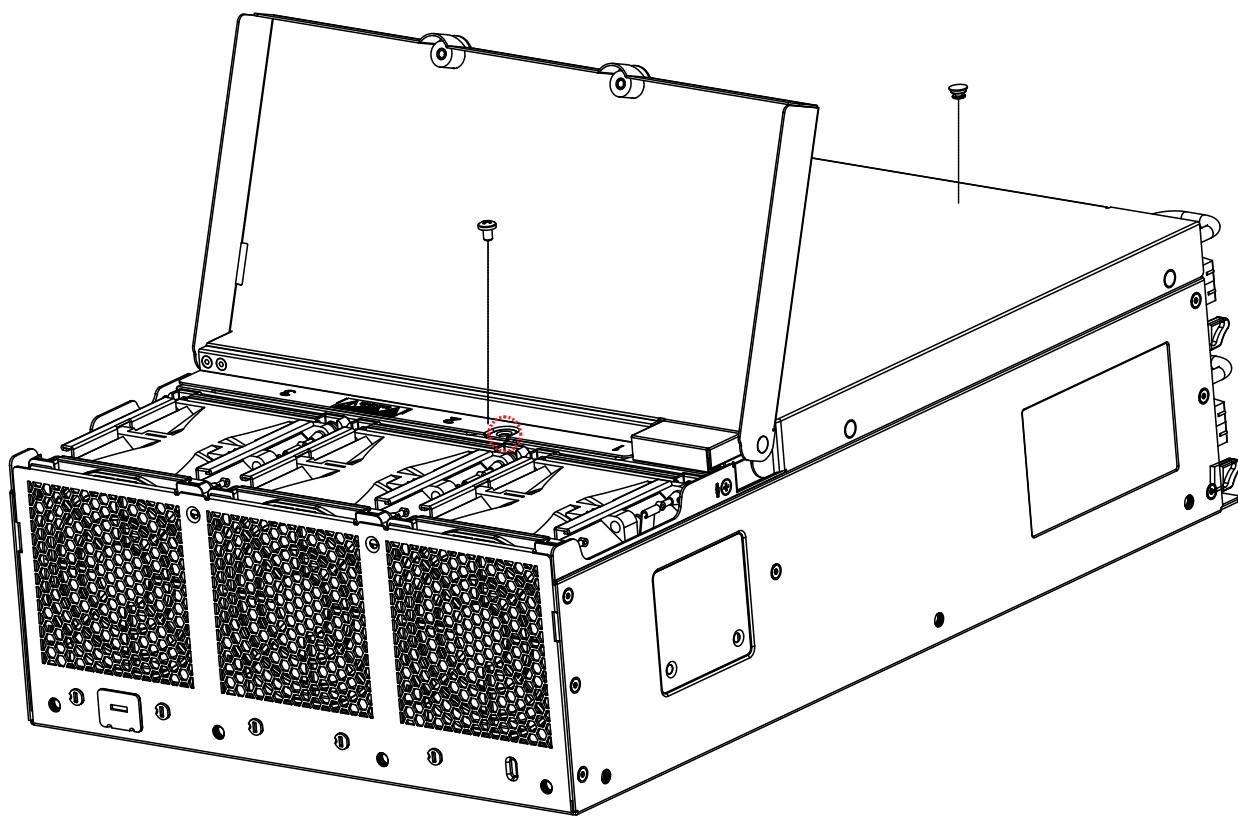

Figure 3-2. Open Fan Cover to Access Fans
2. Remove one screw on top of the server cover near the I/O panel. See Figure 3-2.